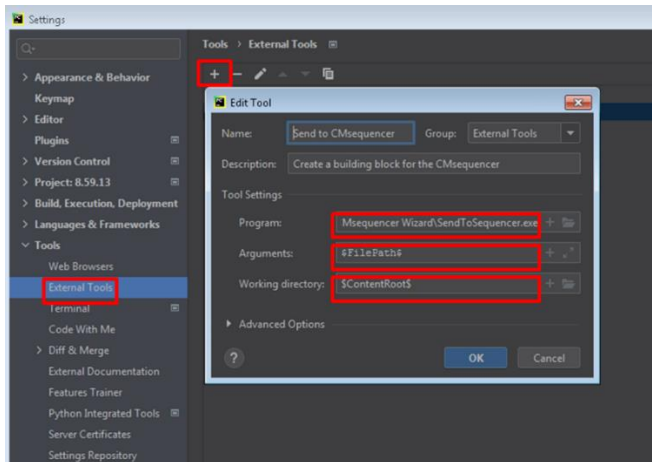

Fig. 2-23 Add external tool 'Send to CMsequencer' in PyCharm
1. First of all, an external tool (`SendToSequencer.exe`) has to be specified in PyCharm [6]. This is an one-time assignment in PyCharm (see Fig. 2-23).